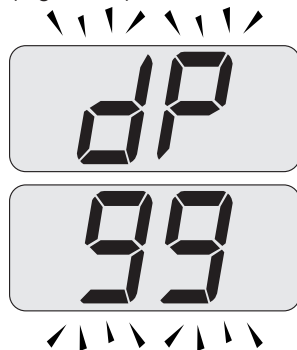

Fig. 10.19
- Press further key 18 to vary again the output in flue sweep mode: when the LCD display displays the letters **dP** that alternate with the heating water temperature value (e.g.**99**), the "flue sweep function" is at maximum output in domestic hot water mode (Fig. 10.19).